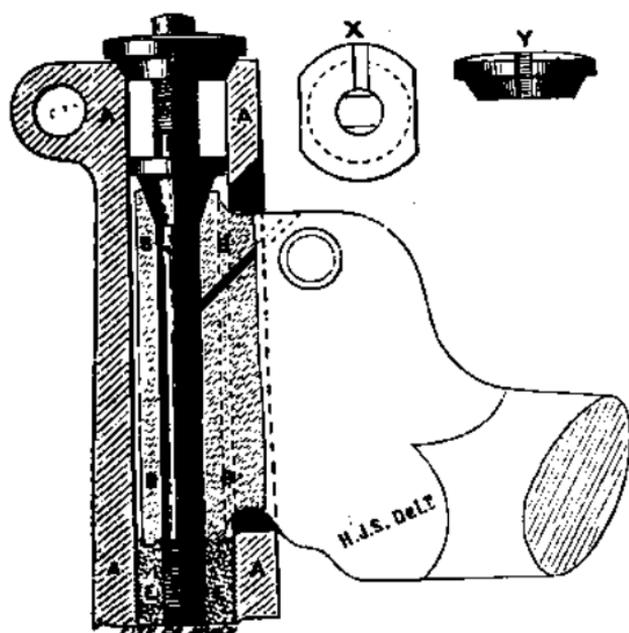

FIG. 39.—THE RUCKER HEAD (Swindley's Patent).
No. 42. The Rucker Headster (M. D. Rucker and Co.).—For a long time the Stanley head has been used by the various bicycle makers with little alteration, but with the Rucker we are introduced to a decidedly beneficial change (Fig. 39). In place of the upright of the neck (B B) having centres top and bottom, the ends are only grooved, the lower being a male (*i.e.*, raised), and the top female (*i.e.*, sunk). These are, however, only to a very slight degree. The upright is drilled throughout its entire length, in order to allow a bolt (C C) to pass through. This may be said to form the actual centre. A thread is cut on the lower end of the bolt, to enable it to screw into a recess (E E) in the bottom of the head; the top of the bolt forms a large cone over an inch long, which fits into the boring in the head, the bottom having a raised ridge to fit into the groove mentioned; a thin lock nut (D) at the top secures it firmly, and the whole is nearly flush with the support of the handle (A A). From this description, aided by the illustration, it will be readily understood that the neck works freely on the centre pin, but while the latter is held firmly, top and bottom, the steering cannot become shaky and loose, a most important improvement, and one that increases the rigidity of the whole machine.